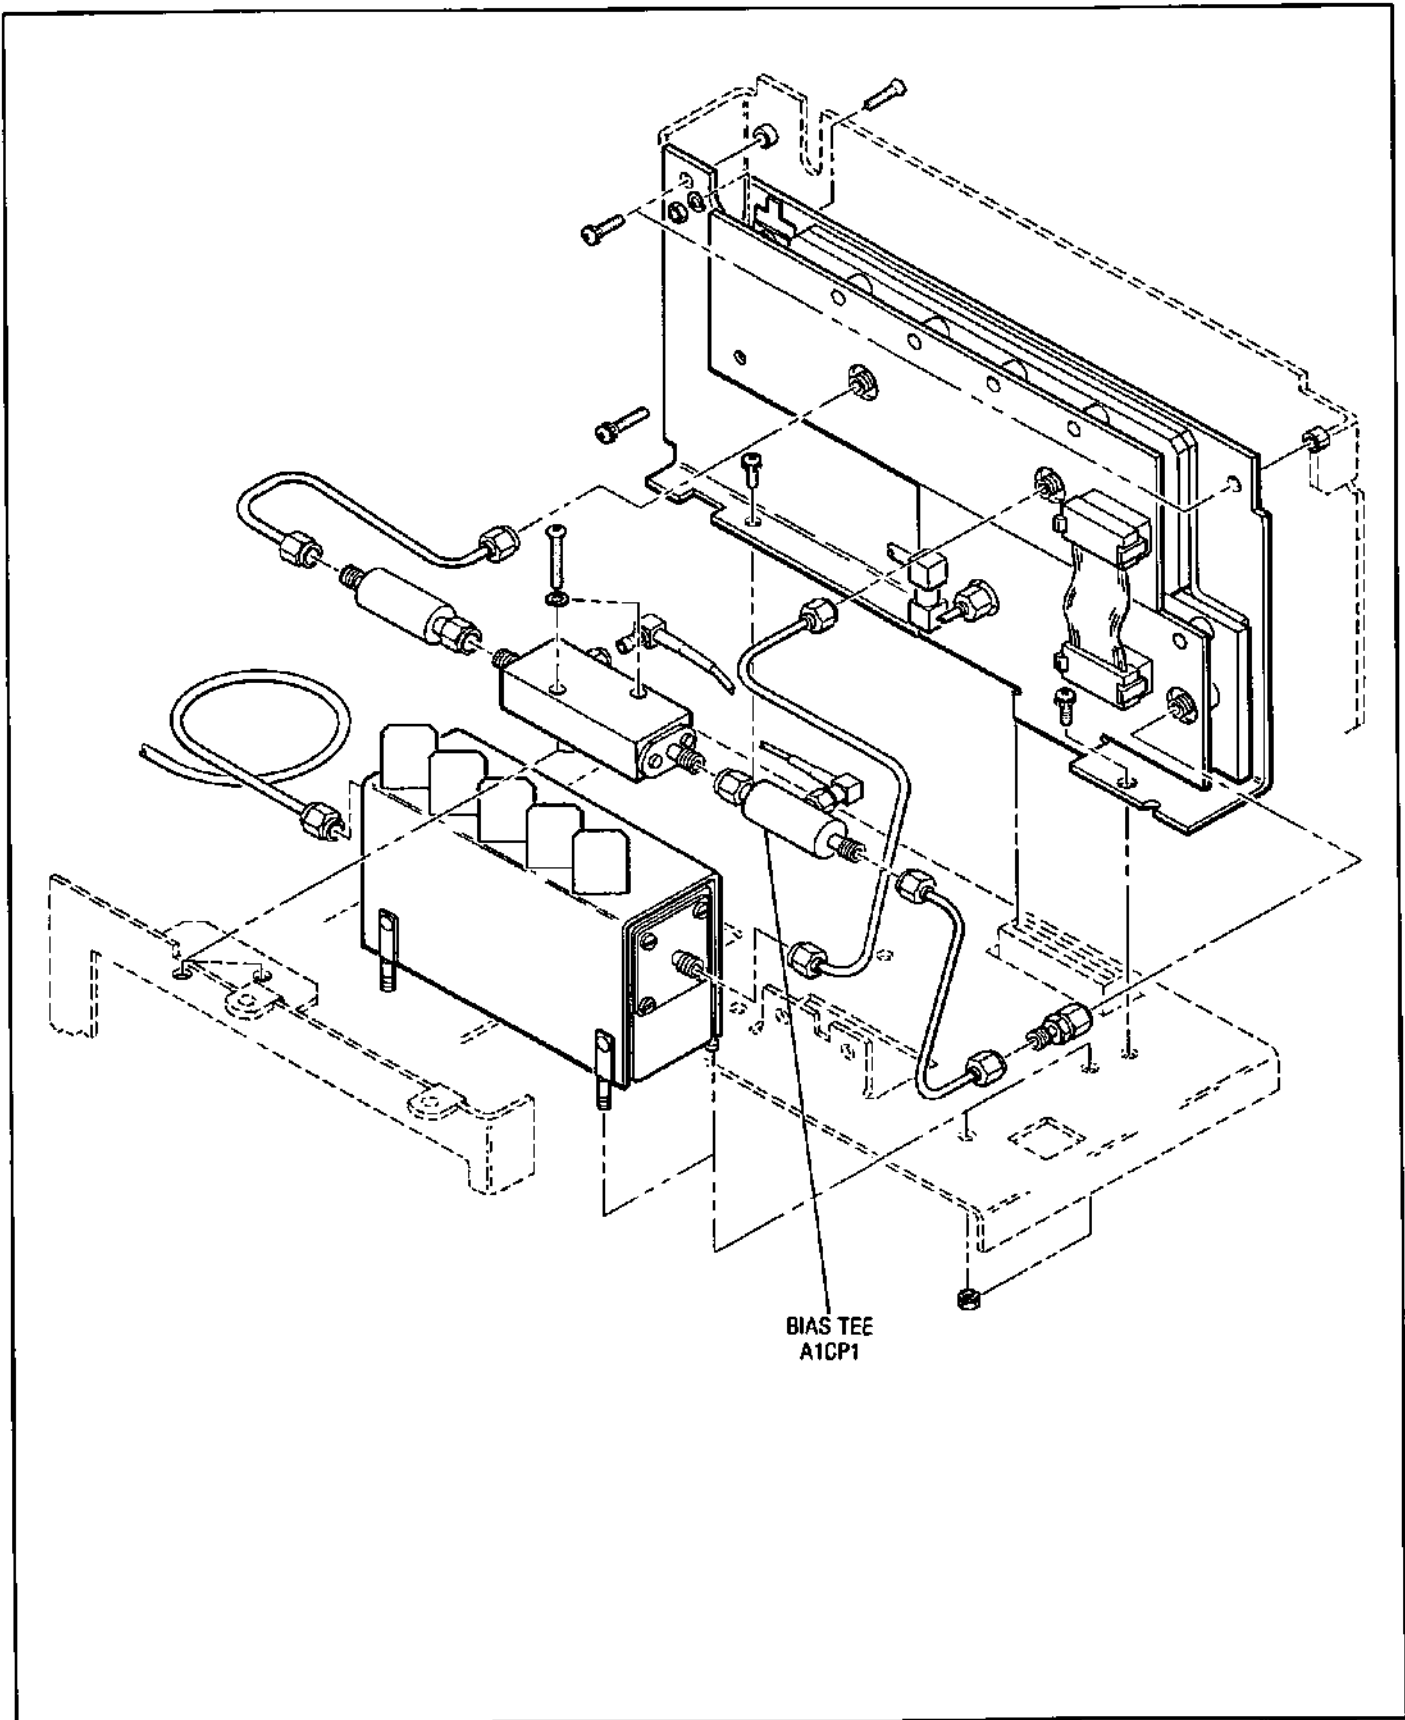

Figure 8-48. Bias Tee
19. Set Both LINE switches to OFF then remove the bias tee A1CP1 (see Figure 8-48). Using the DVM, measure the resistance between: